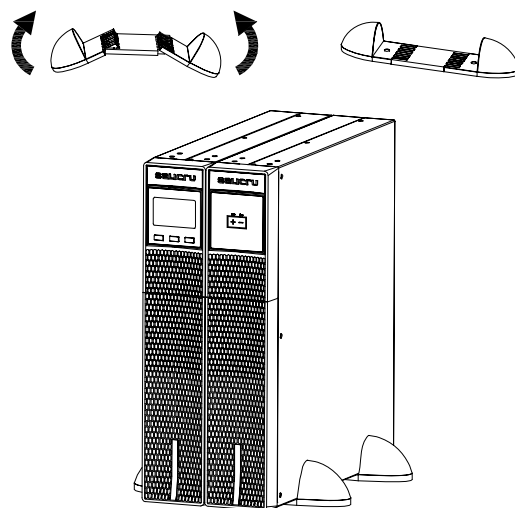

Fig. 10. Vertically mounted tower-type model with backup extension (battery module).
- The device is dispatched from the factory with its EPO circuit set to closed (NC) by default. In other words, the UPS will cut the output power supply, emergency power off, when the circuit is opened:
- ☐ Either by removing the female connector from the socket where it is inserted. This connector has a cable connected as a jumper that closes the circuit (see Fig. 10-A).
- ☐ Or by pressing the button external to the device belonging to the user installed between the terminals of the connector (see Fig. 10-B). The connection on the button must be in the normally closed contact (NC), so it will open the circuit when activated.